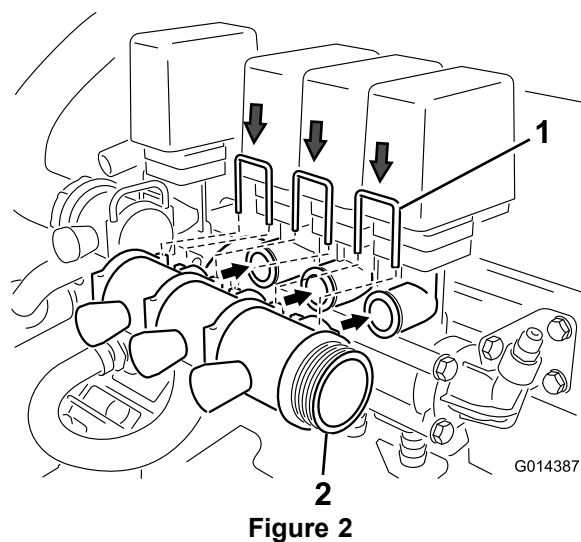

Figure 2
1. Quick pin (3)
2. Plug (3)
3. Install the balancing valve assembly as shown in Figure 2, and secure it with the 3 quick pins that you removed in step 2.